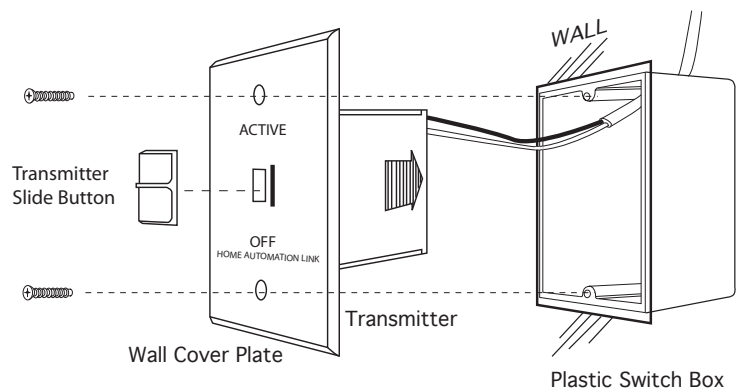

Fig. 7. Installing transmitter into junction box.
Step 6: Install the transmitter into the junction box, attach slide button and installation is complete. See fig. 7.